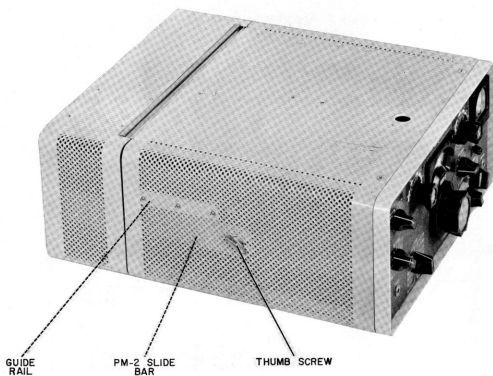

Figure 5. PM-2 Assembled to KWM-2
i. Reassemble the PM-2 and the KWM-2, and tighten the two thumb screws in the sides of the assembly to hold the two units together. Figure 5 shows the completed assembly.